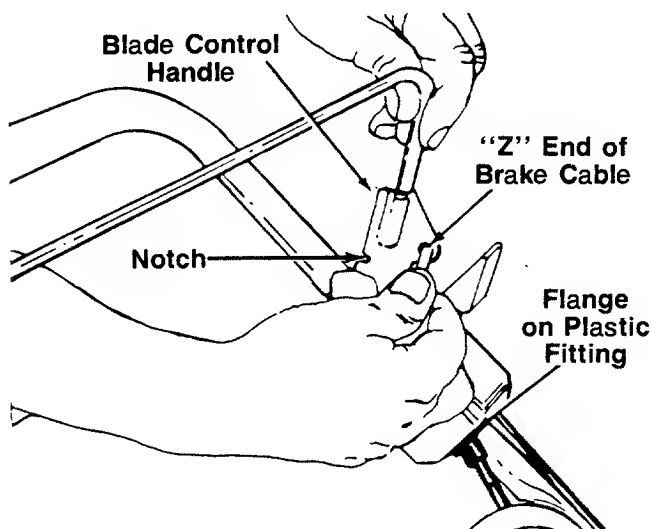

FIGURE 5.
3. Hook the "Z" end of the brake cable into the hole in the blade control handle from the inside to the outside as shown in figure 5.